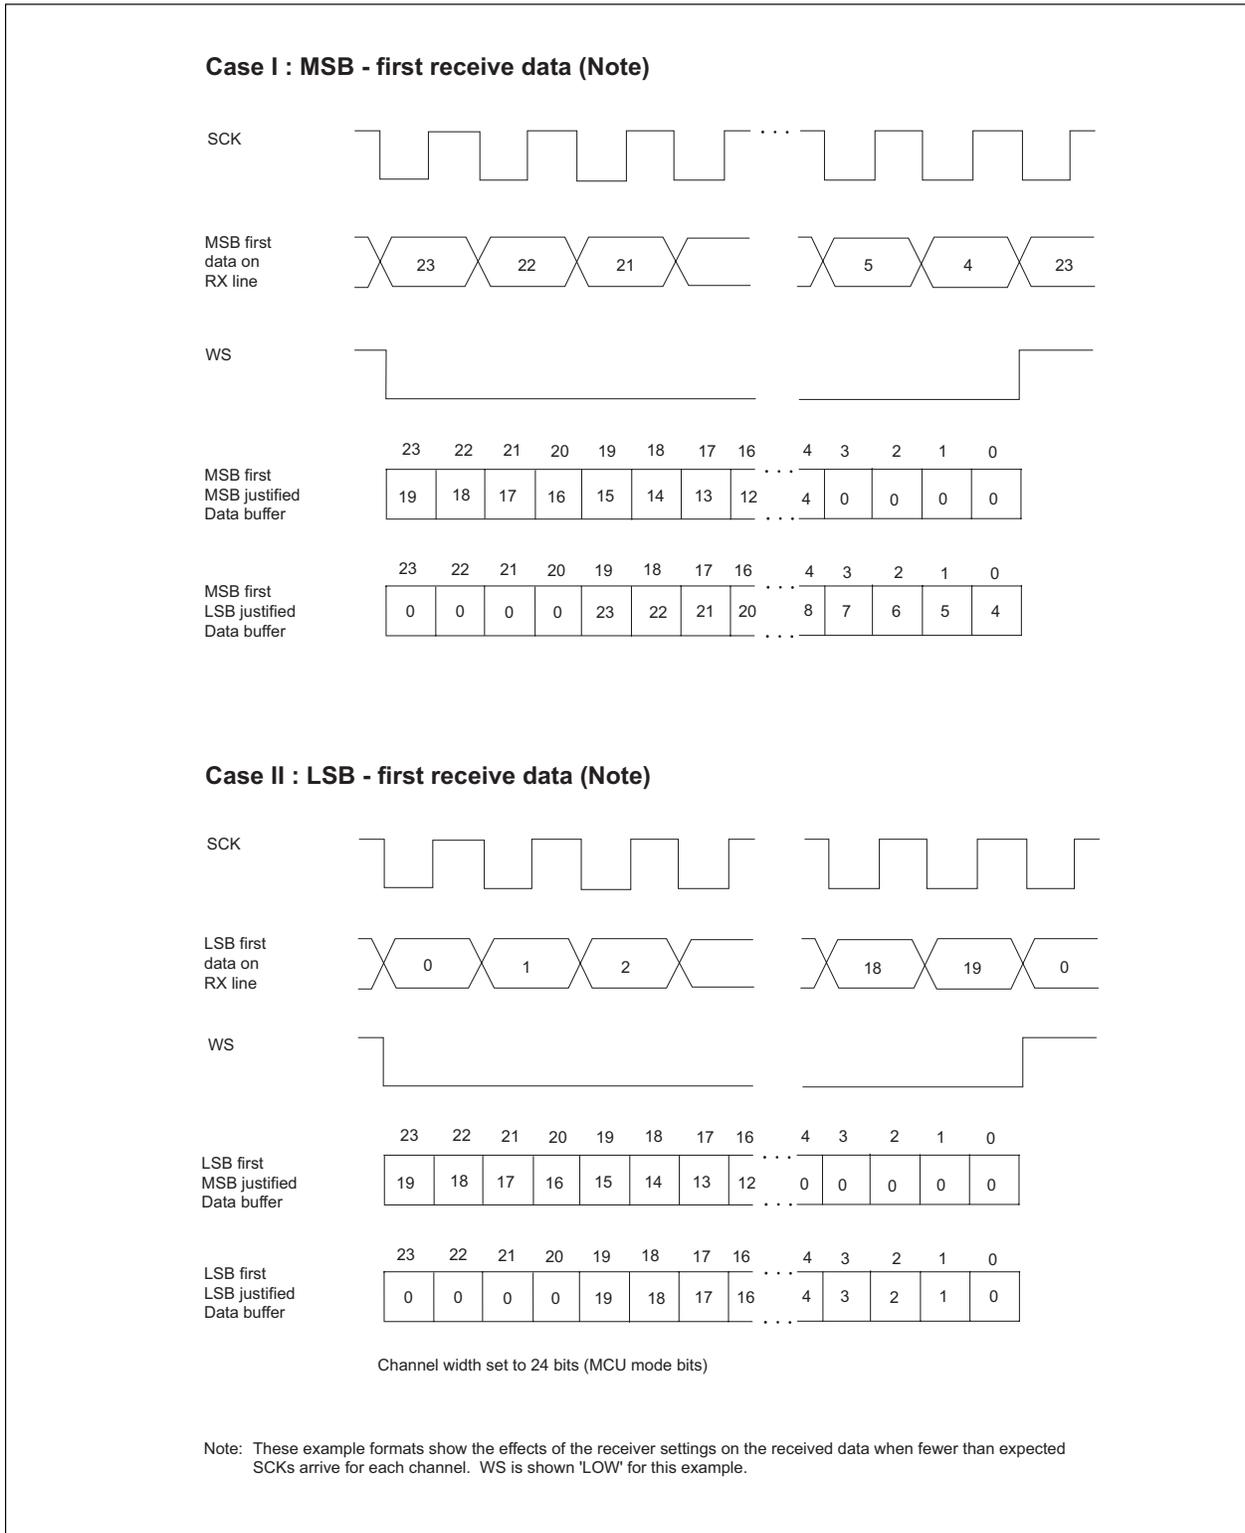

Figure 1.120. Receiver setting effects
- Multiple receive formats: if the number of SCKs in a WS high/low period is less than the channel width, the data can be placed either MSB or LSB justified as shown in Figure 1.120.